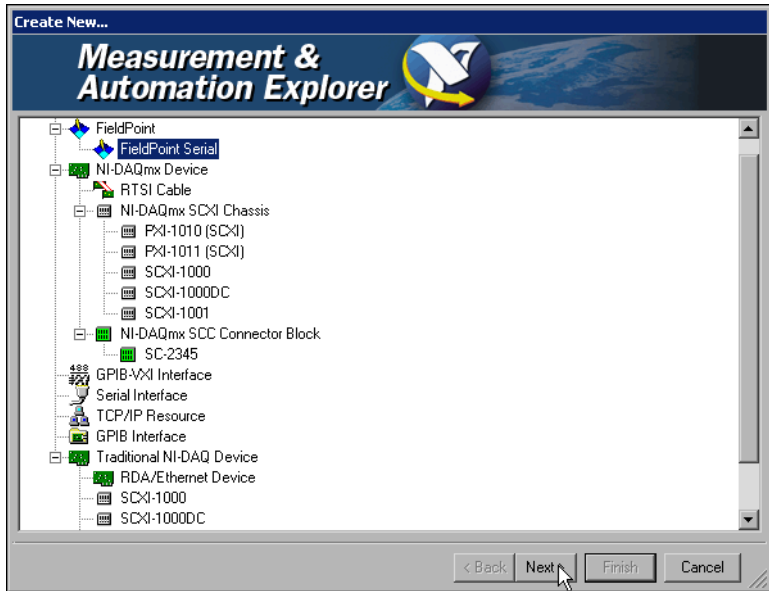

**Figure 2.** FP-1000/1001 Power Connector Pinout
5. Connect the positive wire of the power supply to the first V terminal of the network module. Connect the negative wire of the power supply to the first C terminal of the FP-1000 network module as shown in Figure 2.